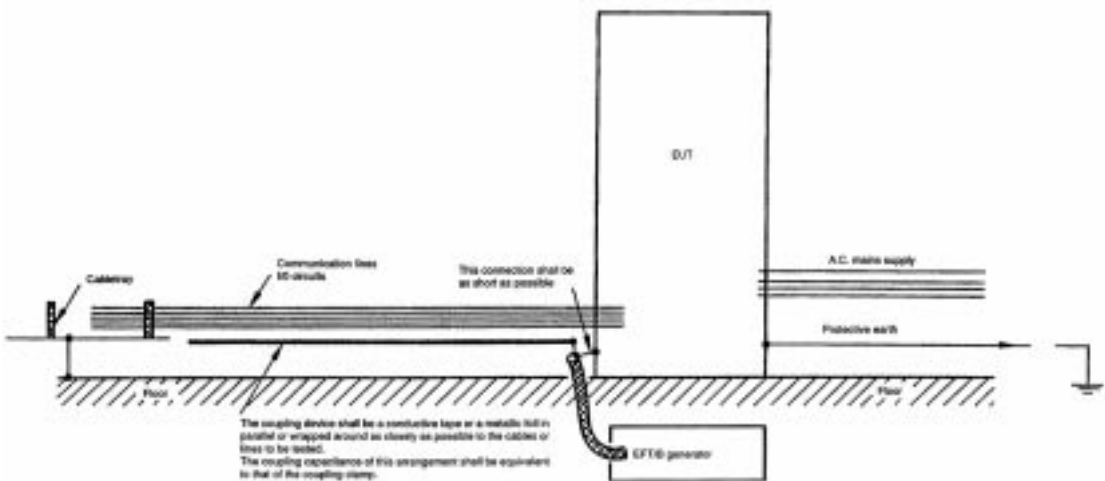

Figure 11. Example for field test on communications and I/O circuits without the capacitive coupling clamp.
- A capacitive clamp shall be used for coupling the test voltage into the lines. However, if the clamp cannot be used due to mechanical problems in the cabling, it may be replaced by a tape or a conductive foil enveloping the lines under test. (See Figure 11).